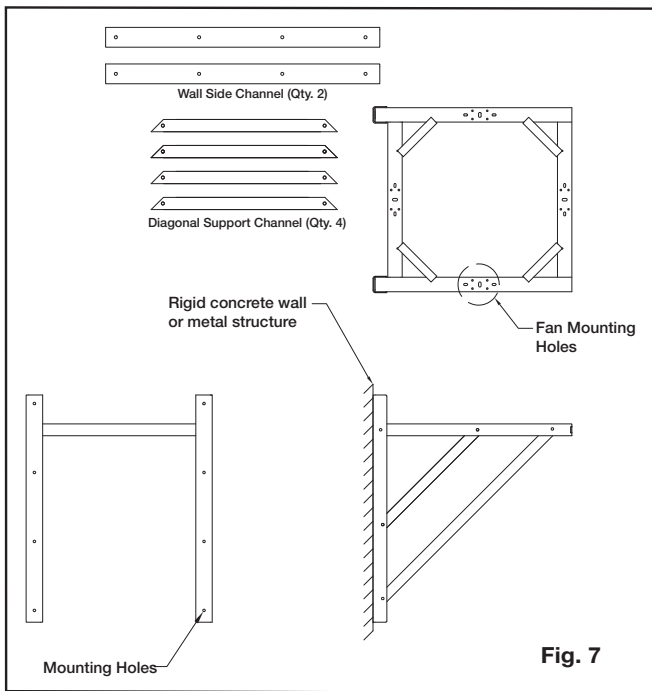

Fig. 7
With a vertical mount, either a mounting ring or curb cap is added to mount the fan. Refer to the submittal for dimensions. Vertical wall mount stand assembly is shipped disassembled with parts shown in Figure 7. Follow the steps below to assemble and install.
2. Assemble all four diagonal support channels shown in Figure 7. Make sure fasteners are added both inside and outside of diagonal support.